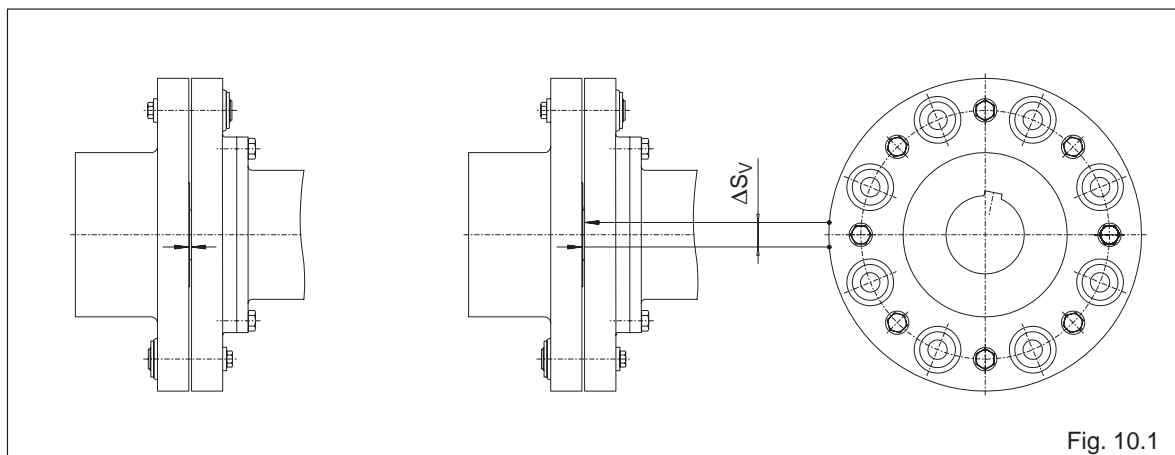

Fig. 10.1
If an increased coupling backlash does not impair the operation of the coupling, the buffers (5) can continue to be used up to a specified wear limit before being replaced. To assess wear, the permitted circumferential backlash, converted to the chord dimension ΔS_V on the outer coupling diameter, is shown in table 10.1. To obtain the dimension ΔS_V , one coupling part is rotated without torque as far as the stop and a mark applied to both side (see Fig. 10.1). If the coupling part is rotated in the opposite direction of rotation as far as the stop, the marks move apart. The distance between the marks is the chord dimension ΔS_V . If the dimension ΔS_V exceeds the value in table 10.1, the buffers (5) must be replaced.